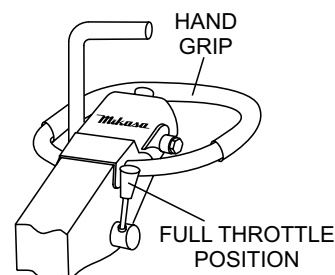

Figure 16. Throttle Lever (Fast)
- Grasp the compactor's hand grip, and move the engine throttle lever (Figure 16) quickly to the fast position.